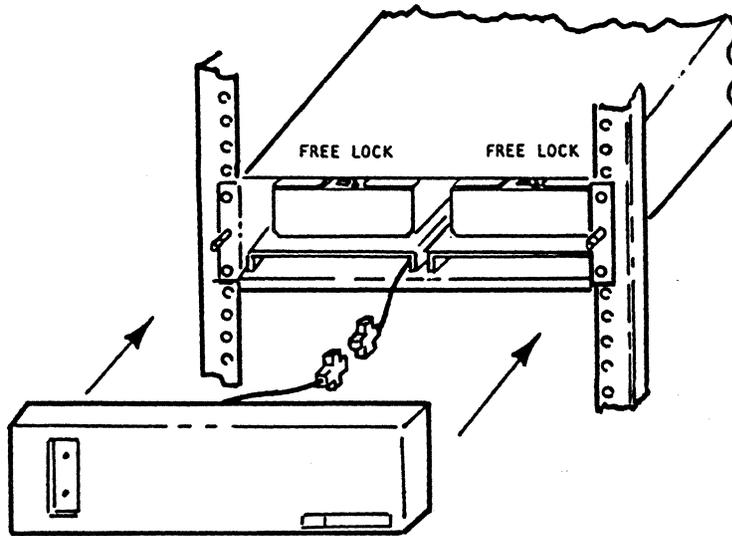

Figure 2-1f. Front Panel Installation
- e. Disconnect the cable connector to free the front panel (bezel) (see Figure 2-1f).
Step 9. Move the head locking mechanism(s), at the front of the WINC-08, to the "FREE" position (see Figure 2-1f).
Connect the front panel cable and push the front panel (bezel) onto its snap fasteners (see Figure 2-1f).